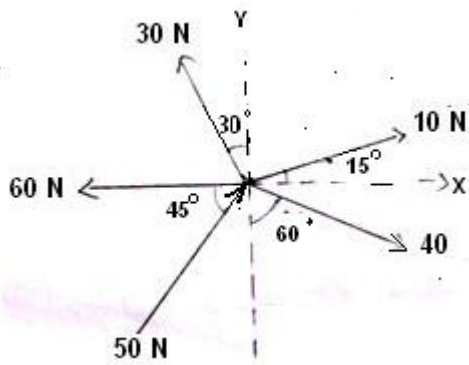

Fig. 4
Q.5	(a) State the conditions of Equilibrium for concurrent forces (b) Find the resultant of following Coplanar Concurrent forces acting as shown in fig. 4 .